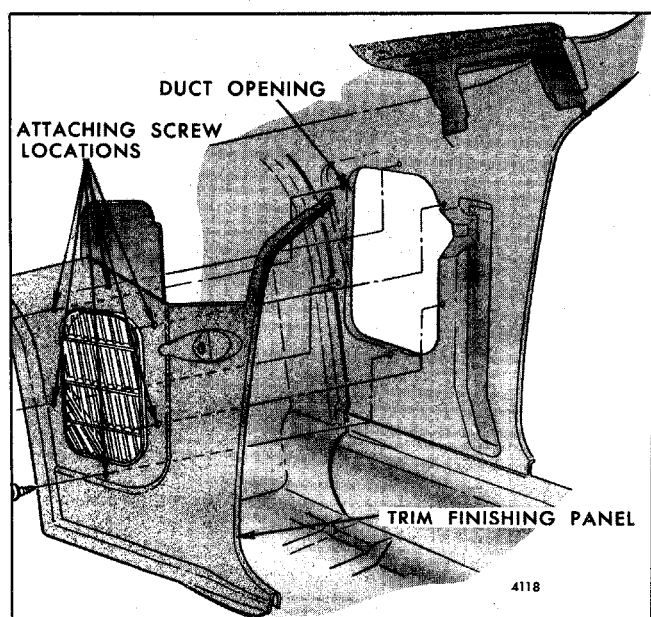

Fig. 4-7-Shroud Side Trim Finishing Panel
1. Duct openings in right and left shroud side panels (Fig. 4-7).
finishing panel. (Figures 4-7, 4-8, 4-9, and 4-10 depict types of finishing panels and their installation).
2. Remove shroud side finishing panel attaching screws (Fig. 4-7).